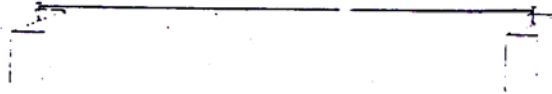

Fig. A-1
3. Attach builder's line to the nails in the stake tops. (Figure A-1)